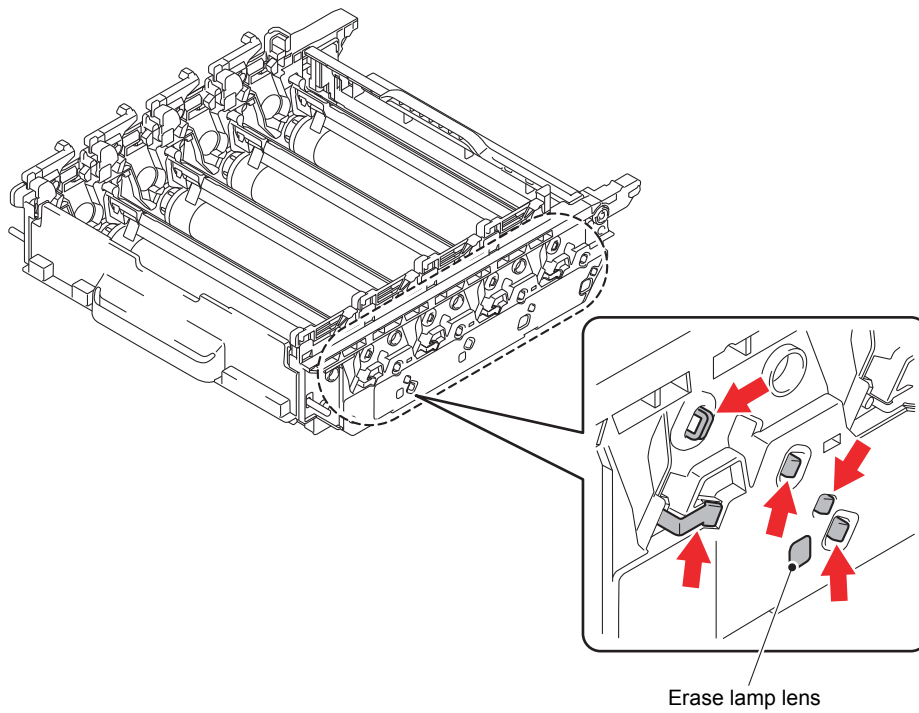

Fig. 2-6
- Clean the terminal of the drum unit. (Refer to Fig. 2-6 \(P2-57\).)